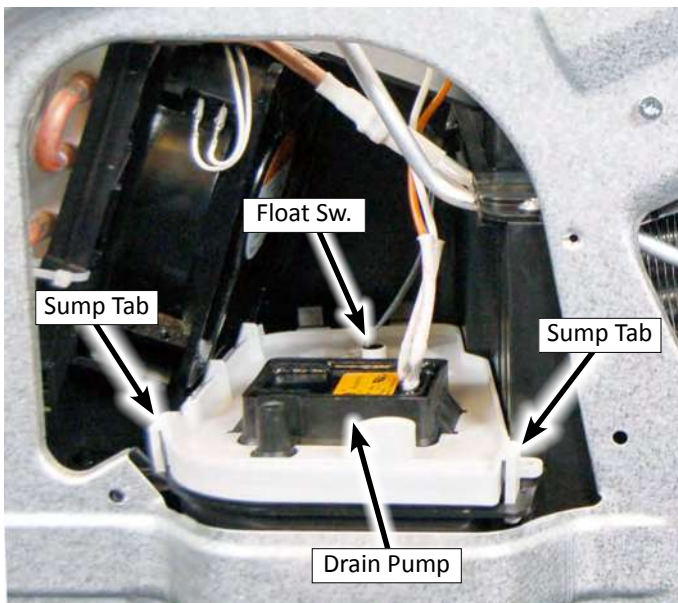

Figure 5
8. Depress the tabs on both sides of the sump assembly. Lift the sump up and slide out to disengage the rear clips (see Figure 5).